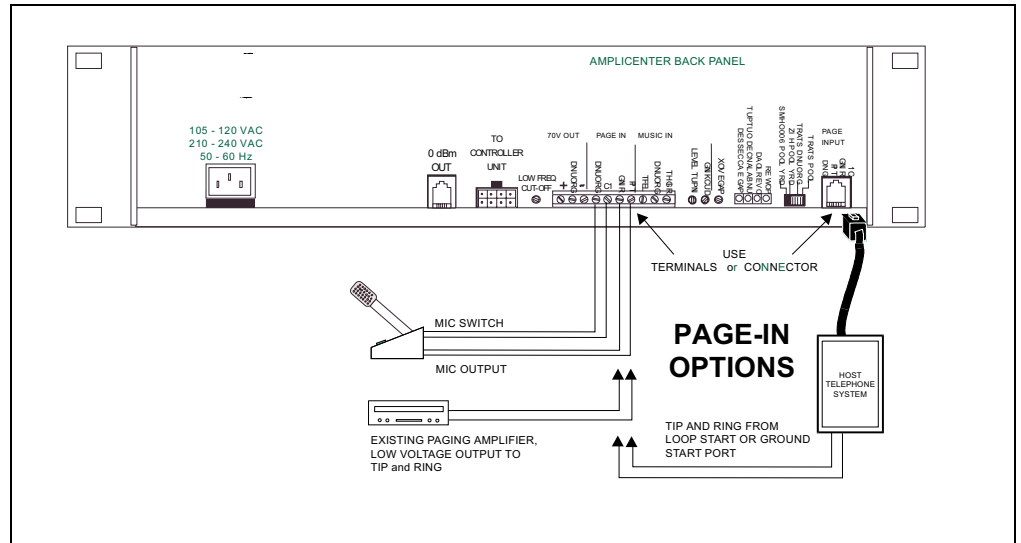

Figure 5. Host Telephone System Connection
4. Connect host telephone system to AmpliCenter (see Figure 5).